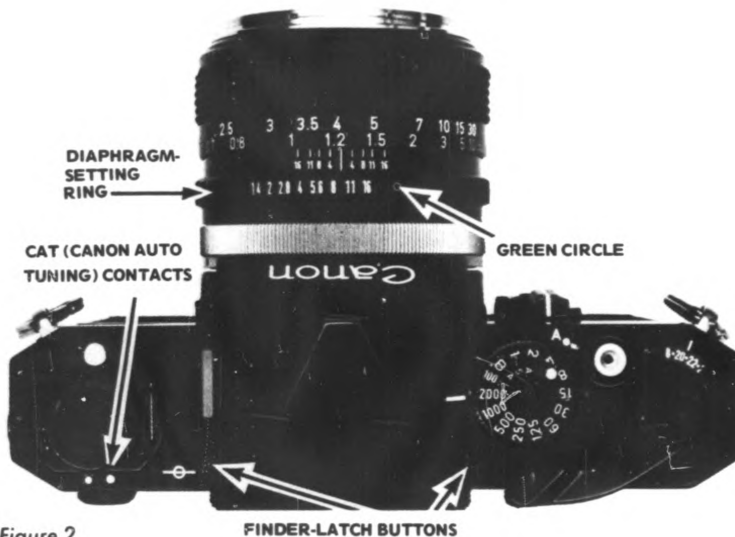
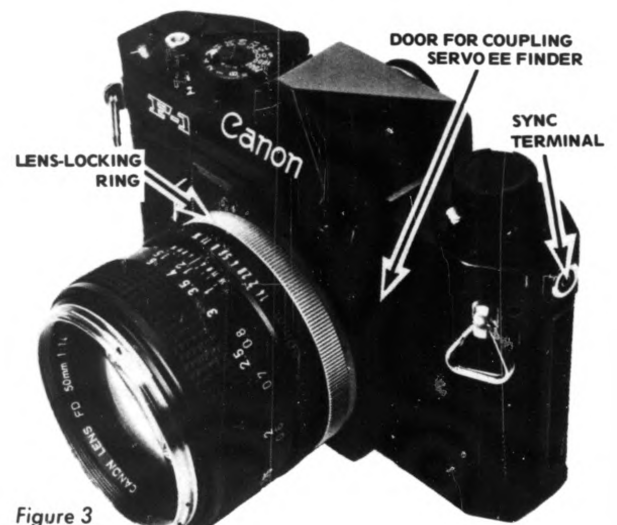
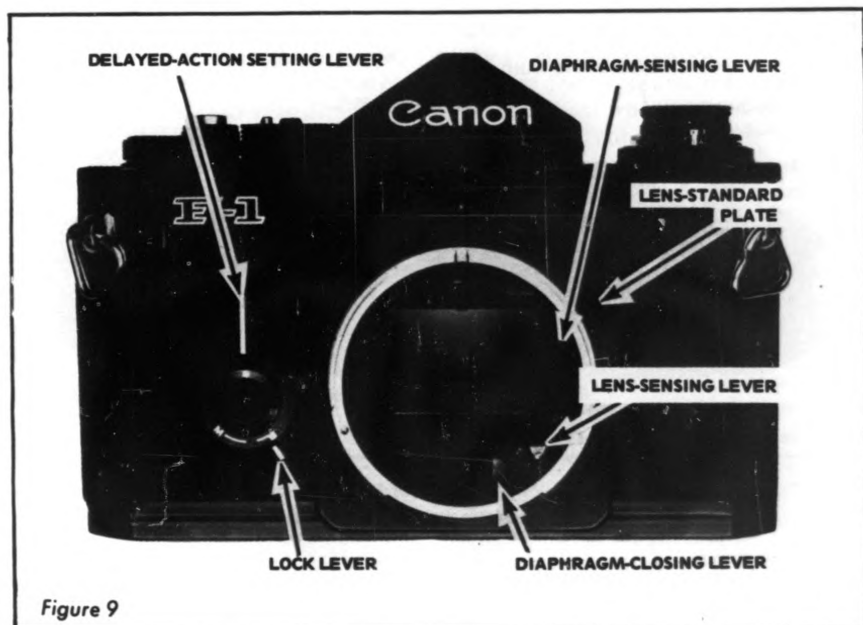
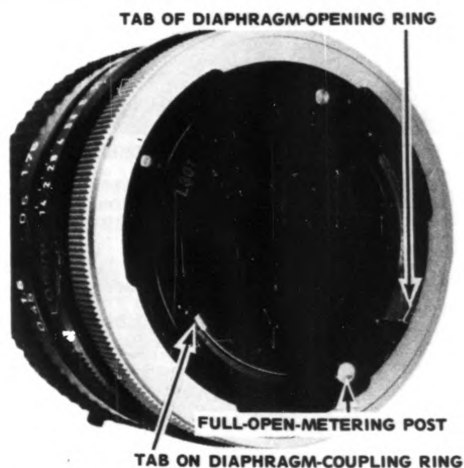

Figure 2
Figure 3
Figure 9
Figure 10
- **SERVO EE FINDER.** For full shutter-speed-preferred automation, replace the standard pentaprism finder with the Servo EE Finder. Remove the pentaprism finder by first depressing the two finder-latch buttons, Fig. 2; then, slide off the finder toward the back of the camera.
The Servo EE Finder connects to the lens diaphragm through a swinging door at the side of the lens standard, Fig. 3. In use, you set the diaphragm-setting ring to the green circle, Fig. 2, rather than to one of the standard aperture settings. A servo motor then drives the diaphragm to the proper opening size.
You can see the pointer coupling by looking inside the lens mount. First, remove the lens by turning the lens-locking ring, Fig. 3, in a counterclockwise direction — the conventional Canon breechlock design. Now exposed inside the camera are the **diaphragm-closing lever**, the **lens-sensing lever**, and the **diaphragm-sensing lever**, Fig. 9.
The diaphragm-closing lever swings from right to left as the mirror rises to the taking position; that drives the **diaphragm-opening ring** of the lens counterclockwise (as seen from the back of the lens), Fig. 10. As a result, the spring-loaded diaphragm leaves close to the selected aperture. The other two levers couple the lens to the exposure-meter system.
Each lens in Canon's FD series has the special post shown in Fig. 10. By its height, the post tells the exposure-meter system the maximum aperture of the lens in use. Installing the lens brings the post against the lens-sensing lever, Fig. 9 — that pushes the lens-sensing lever into the camera body. And the lens-sensing lever sets
The diaphragm-sensing lever also couples to the pointer. Changing the diaphragm setting rotates the **diaphragm-coupling ring** of the lens — you can see the tab of the diaphragm-coupling ring in Fig. 10. The tab normally sits on top of the diaphragm-sensing lever, Fig. 9. So as you set a smaller aperture, the diaphragm-coupling ring pulls down the diaphragm-sensing lever. Setting a larger aperture allows the spring-loaded diaphragm-sensing lever to move toward the top of the camera.
Notice that turning the lens-locking ring counterclockwise (as seen from the front of the lens) moves the diaphragm-coupling ring to the position shown in Fig. 10. Consequently, the tab on the diaphragm-coupling ring passes to the top of the diaphragm-sensing lever. As you lock the lens in place, the lens-locking ring frees the diaphragm-coupling ring. Now, the diaphragm-coupling ring follows the rotation of the diaphragm-setting ring.
When you're using the Servo EE Finder, the diaphragm-coupling ring selects the aperture. Here, you set the diaphragm-setting ring to the green-circle calibration — that's the same aperture as $f/16$. Then, you turn the diaphragm-opening ring, Fig. 10, all the way counterclockwise until it latches in place. Since the diaphragm-opening ring no longer has any control, the leaves stop down to the smallest aperture. The Servo EE Finder can now position the diaphragm-sensing lever to turn the diaphragm-coupling ring.
There's a manual diaphragm control for a depth-of-field preview built into the delayed-action cocking control. Push the delayed-action setting lever toward the lens — the diaphragm-closing lever then moves from right to left in Fig. 9, allowing the diaphragm leaves to close to the selected aperture. Even this feature is a carryover from earlier models that use stop-down metering. But in many of the earlier Canons, actuating the depth-of-field preview also closes the exposure-meter switch.
Locking the delayed-action setting lever in the stopped-down position allows you to use FL lenses with the F-1. The FD lenses provided for the Canon F-1 have all the needed coupling for full-aperture metering. But the FL lenses are designed for stopped-down metering. While holding the delayed-action setting lever in the stopped-down position, turn the lock lever, Fig. 9, to the "L" calibration; that locks the delayed-action setting lever to keep the lens stopped down.
The F-1 has two separate top-cover plates—one on the wind side and one on the rewind side. It makes no difference which plate you remove first. But in either case, you'll have to take off the lens-standard plate, Fig. 9. So take out the four cross-point